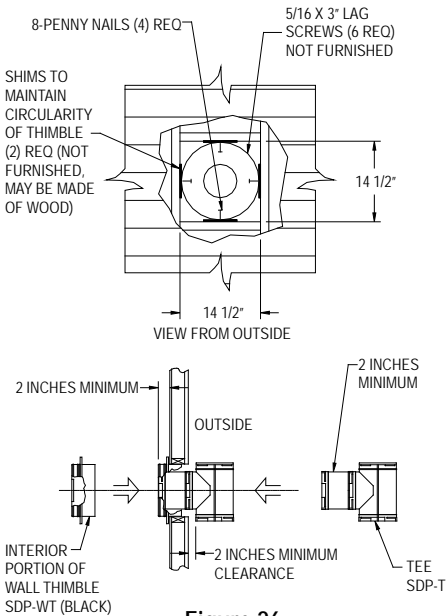

Figure 26
3. Install Wall Thimble: Insert the black section of the Wall Thimble into the opening in the wall from inside the room, and align the nail holes with the studs. (*Figure 26*). Do not nail the black thimble section at this time. Attach the Tee to a 9-inch or 12-inch Chimney Section by twisting until it is firmly locked. If the wall is less than 6 inches thick, use a 9-inch Chimney Section; if the wall is between 6 and 9 inches thick, use a 12-inch Chimney Section. From outside the building, insert the Chimney Section into the hole until the vertical part of the Tee is 2 inches away from the outside of the wall, and the black portion of the Wall Thimble and the Chimney Section protrude into the room at least 2 inches. **IMPORTANT: In order to make a safe connection, the female end of the Chimney Section must fully contact the inside face of the Wall Thimble.** Remove the